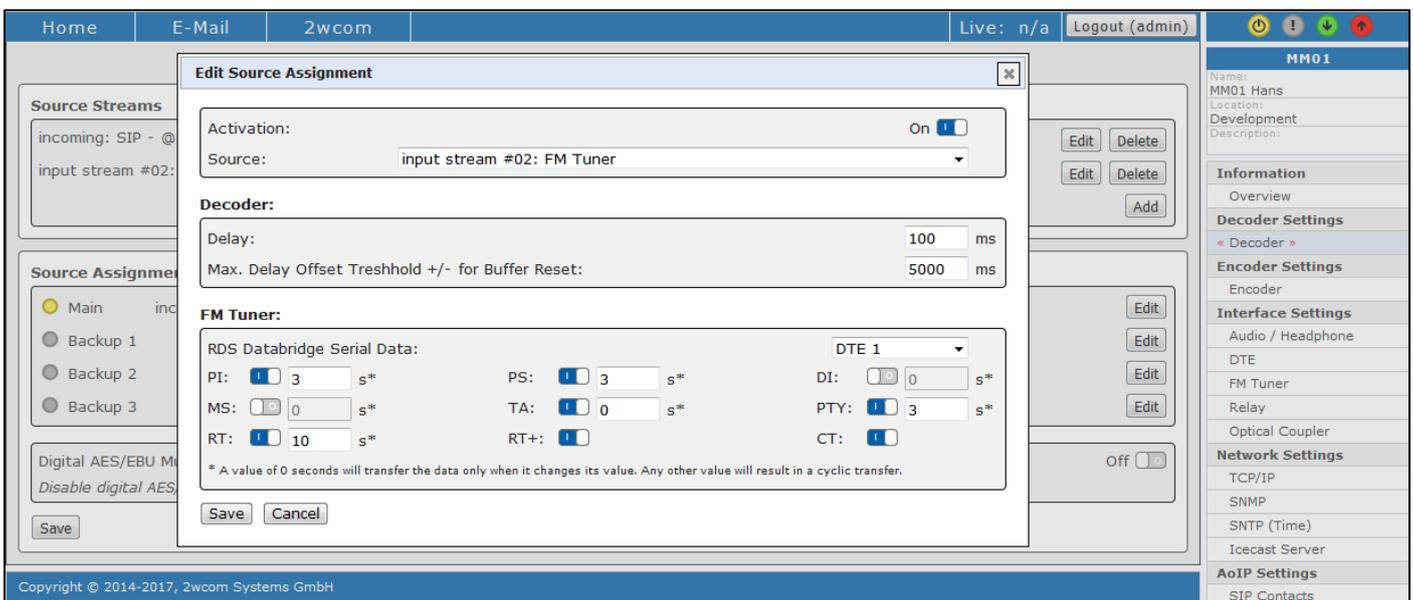

Figure 44: Input Source Settings – FM Tuner
7. If the source for the input signal is "FM Tuner" (for monitoring or backup), set up the parameters for Decoder and RDS Data (see Figure 44).
Additionally, the MM01 decoder can output data from playout per Livewire. Edit Livewire streams for decoder output under **Decoder Settings**→**Decoder** in the “Livewire Sources” block (see Figure 44).